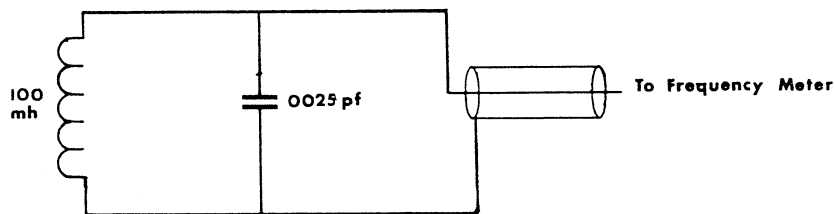

FIG. 10-4 RESONATE PROBE
- Resonate Probe - See figure 10-4